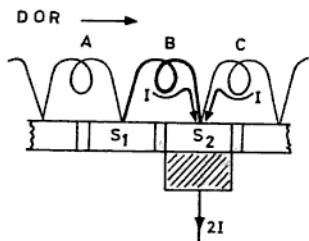

Fig. 7.36 Commutation before short circuit
In Fig. 7.36, a portion of the winding is shown and only the changes in coil  $B$  will be considered. For easy understanding the coil connected to the segments are shown with a single turn. However, in actual practice the coils can have a number of turns.
**Before Short Circuit** In Fig. 7.36, the brush is only in contact with segment  $S_2$ . The brush collects a current of  $I$  A from the left-hand side
of the left side winding reaches the brush through coil  $A$  and segment  $S_1$  without passing through coil  $B$ . The current  $I$  A of the right side winding reaches the brush through coil  $B$  and segment  $S_1$ . It should be again noted that coil  $B$  passes the current in anti-clockwise direction. This is just opposite the first position as shown in Fig. 7.36.